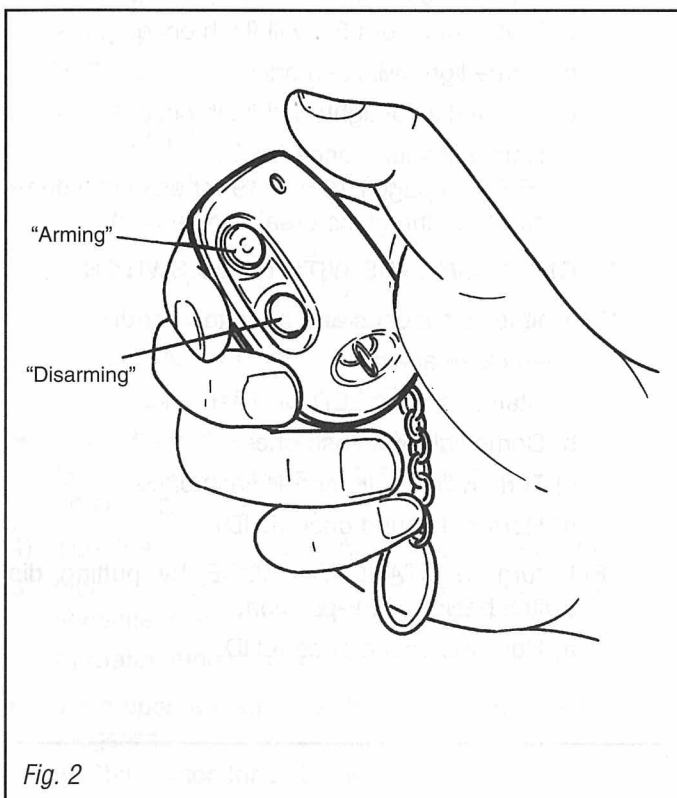

Fig. 2
- 3) Push the "disarming" button of the remote control transmitter. (See figure 2).